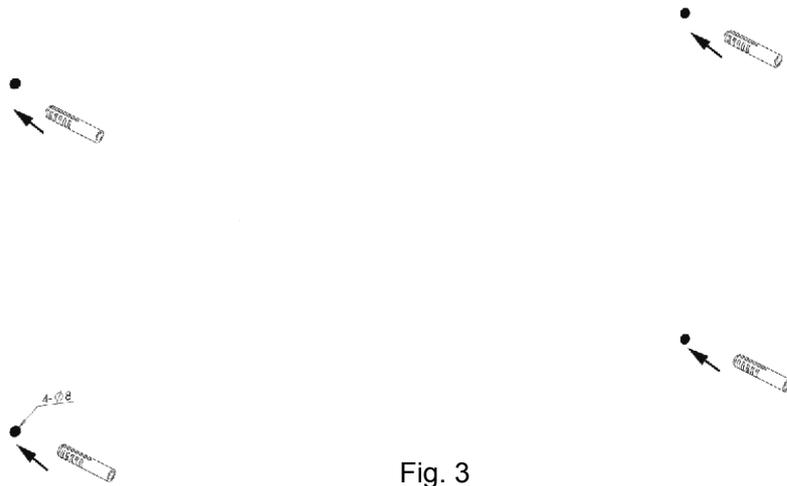

Fig. 3
- Take away the mounting bracket and then drill 4pcs $\Phi 8$ holes on the wall. Put the plastic wall plug into the hole. (Fig. 3) If the wall is solid wood, there is no need to drill the holes on the wood and no need for the plastic wall plugs.